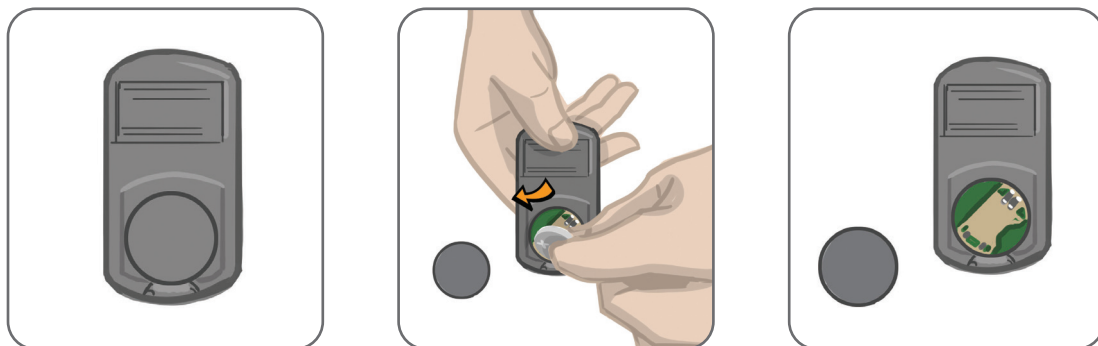

Figure 11-2: Replacing the Control Unit Battery
1. Use the recess area on the back of the Control Unit to pop out the battery lid cover. If you find it difficult to remove the cover a coin (quarter) may be used to open the cover. See Figure 11-2.